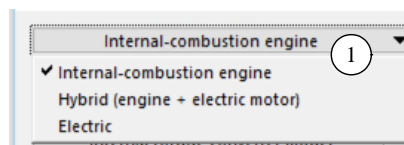

Figure 16. Three sources of power for the powertrain system.
- ① Drop-down list of three source of power for the system (Figure 16).